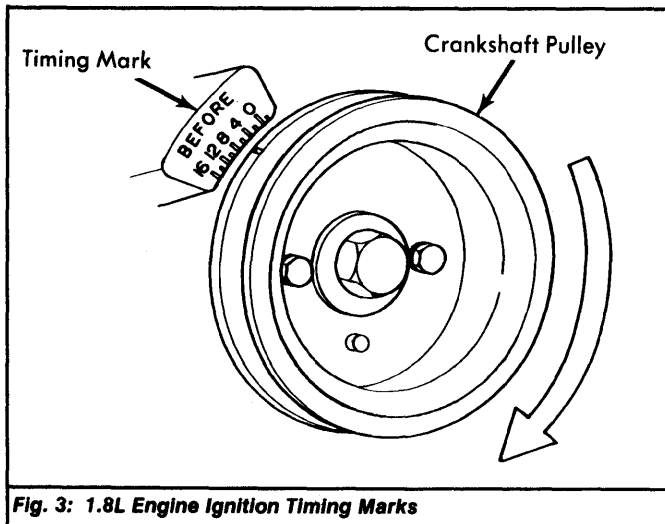

Fig. 3: 1.8L Engine Ignition Timing Marks
2) Adjust timing by rotating distributor clockwise or counterclockwise until notch on pulley aligns with 6°BTDC mark on machined pad on front cover ("0" mark is TDC). See Fig. 3.